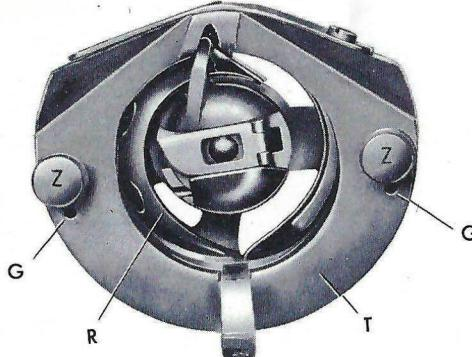

**Fig. 18**
- e. With thumb and forefinger of left hand, take bobbin case (into which the full bobbin has been inserted) by the latch and place it on the center stud of the hook (shuttle). The position finger of the bobbin case must be opposite the notch on top of the race plate, as shown in Fig. 18.